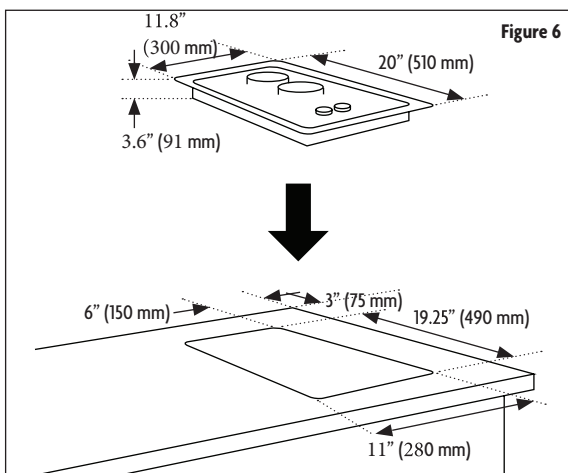

Figure 6
2. Cut the opening in the countertop. To ensure accuracy it is best to make a template for the opening. Make sure the sides are parallel also rear and front cuts are exactly perpendicular to the sides. Keep in mind all minimum clearances. (Refer to Figure 6.)
5. After the foam gasket is installed, place the cooktop into the countertop. (Refer to Figure 6.)